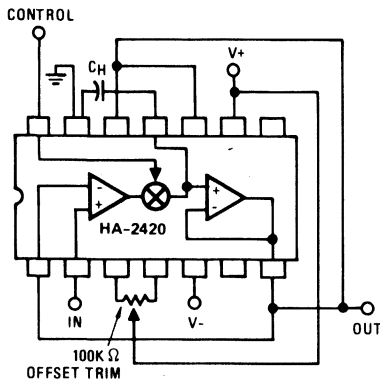

Figure 1
- 1) Figure 1 shows a typical unity gain circuit, with offset zeroing. All of the other normal op amp feedback configurations may be used with the HA-2420/2425. The input amplifier may be used as a gated amplifier by utilizing Pin 11 as the output. This amplifier has excellent drive capabilities along with exceptionally low switch leakage.